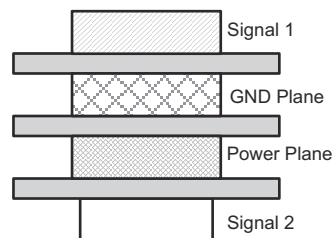

Figure 11-5. Four-Layer Board Stack-Up
8. Due to high frequencies associated with the USB, a printed circuit board with at least four layers is recommended; two signal layers separated by a ground and power layer as shown in Figure 11-5.